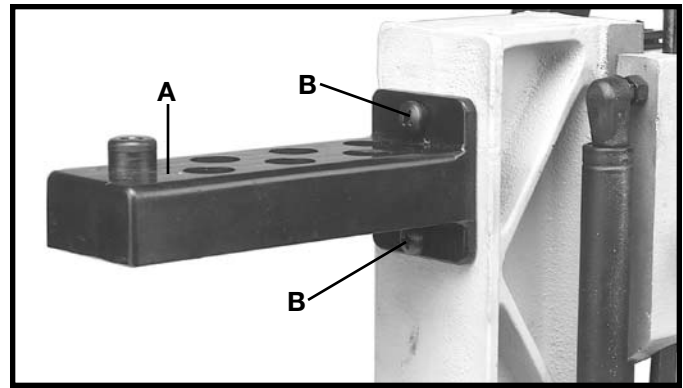

Fig. 7
1. Assemble tool and chisel holder (A) Fig. 7, to back of column using the two M6x1x25mm screws (B) and M6 lockwashers as shown.